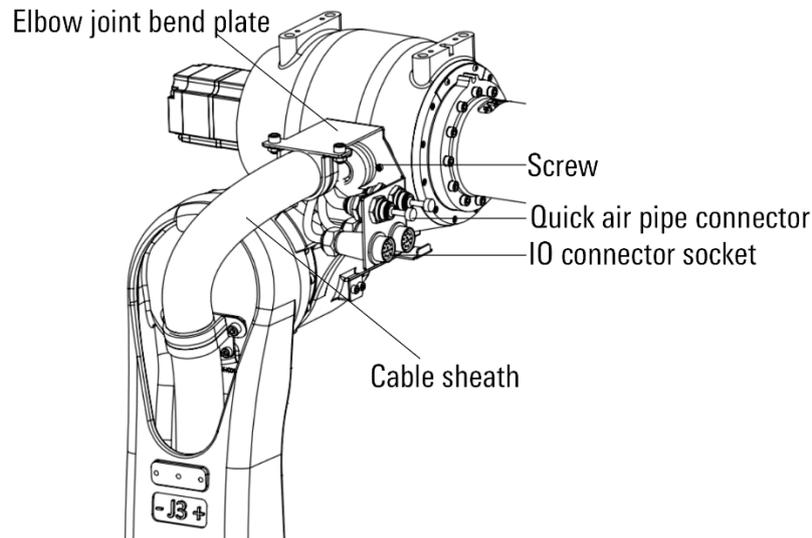

Figure 12-3 Cable inside elbow
- Step1. Disassemble the elbow joint bend plate, as shown in Figure 12-3..